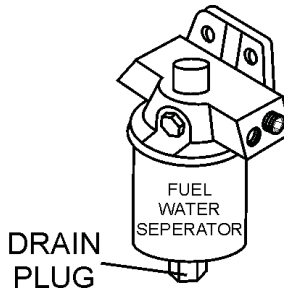

Figure 16. Fuel Water Separator Filter
1. Inspect the fuel water separator (Figure 16) every 40 hours. If the fuel water separator requires maintenance follow steps 2 and 3 below.
2. Open the drain plug on the fuel water separator (Figure 16) to remove any sediment or water that may have accumulated in the fuel water separator reservoir.